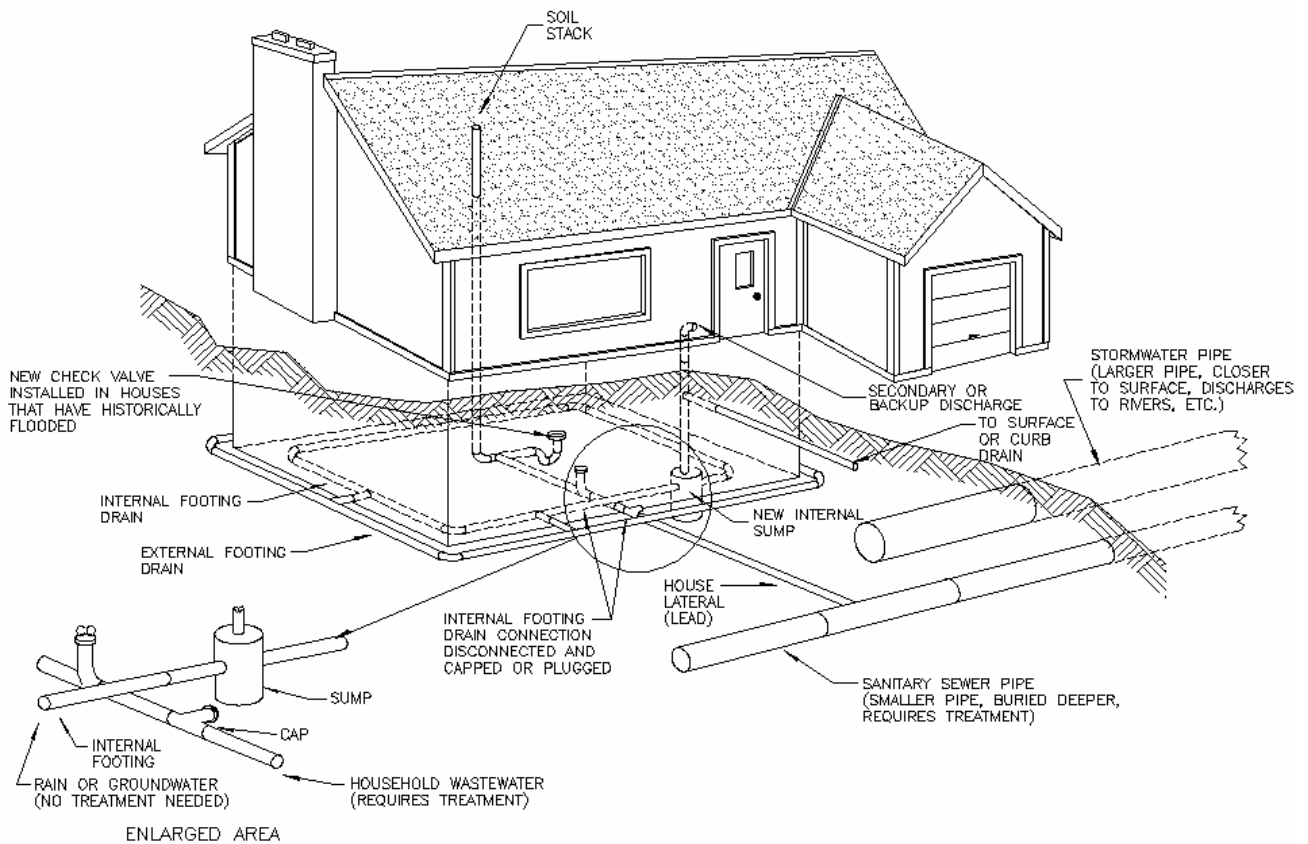

Figure 2 – Basement Sump Construction
1. Disconnect the footing drains from the house sanitary lead and install a sump pump to move water from the footing drains into the stormwater system. If the connection to the sanitary house lead is inside the basement (typical for homes in the City of Southfield), the sump is installed in the basement as shown in Figure 2 below.